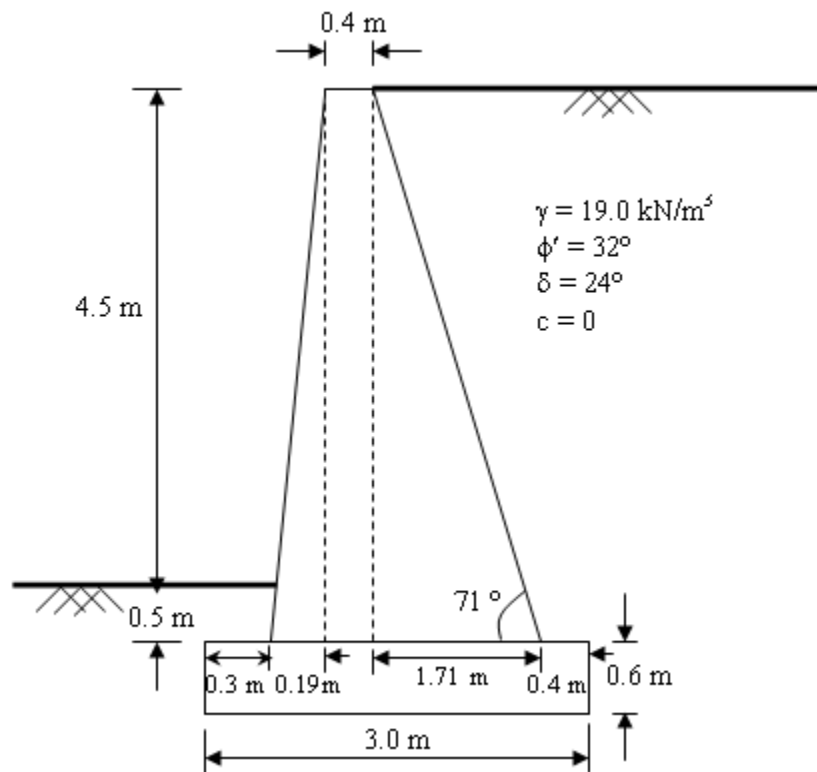

Fig. 7
34. Check the stability of the gravity retaining wall as shown in Fig. 7. Take the net ultimate soil pressure equal to 500 kN/m^2 . Use Coulomb's theory. Neglect the effect of passive lateral earth pressure effect. $K_a = 0.417$.